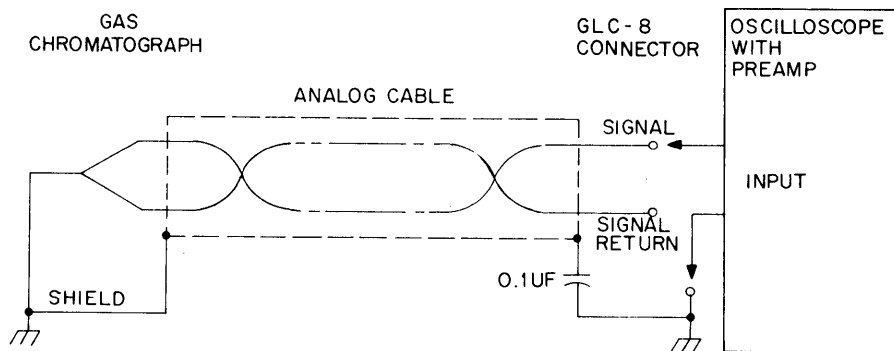

Figure 4-7 Common Mode Noise Analysis Test Setup
c. On completion of the installation of the cable assembly, the common-mode noise content of the installation is measured to determine the error introduced into the system due to common-mode noise. The output of the gas chromatograph is measured from both signal line to shield and from signal return line to shield at the GLC-8 connector with an oscilloscope and preamplifier. The test setup for measurement of common-mode noise is shown in Figure 4-7. As previously mentioned, the system has a common mode rejection ratio of 120 db, at 60 Hz with a worst case source unbalance of 1000 ohms. Therefore, for each volt of common-mode voltage measured, one microvolt of noise will be seen at the A/D converter. If the minimum signal output of the gas chromatograph is 10 μ V, it follows that the maximum noise that the system can tolerate is 10V. If the measured common-mode noise is 10V or greater, the grounding system of the gas chromatographs should be modified as indicated in the installation and planning sections.